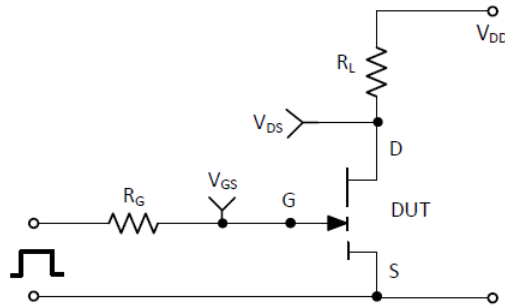

Figure 16: switching time test circuit
(5) See Figure 16 for timing test circuit diagram and definition waveforms